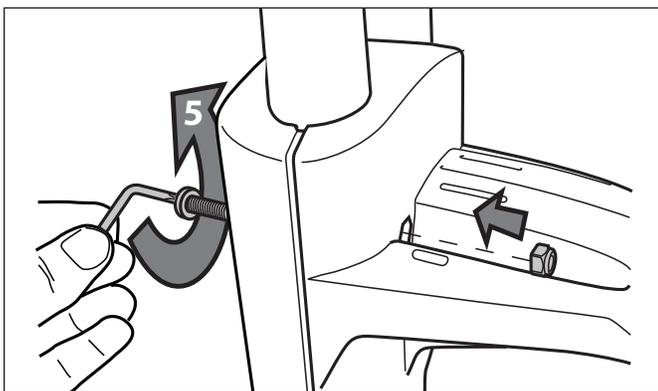

**Figure 3. Position the Bottom Power Cable Hook**
- Position the bottom power cable hook as shown in Figure 3. Place the cable hook plate opposite the power cable hook. Secure using a screw and tightening with the Torx® wrench. Refer to Figure 4.